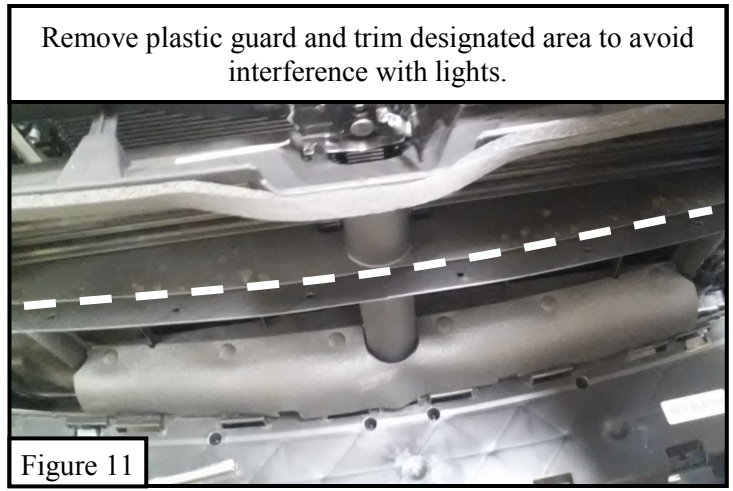

Figure 11
9. There will be a plastic guard at the center of the automated louver housing for the cooling system. Remove plastic guard held on by plastic clips and trim the uncovered area to avoid interference with led light bars. **See Figure 11.**